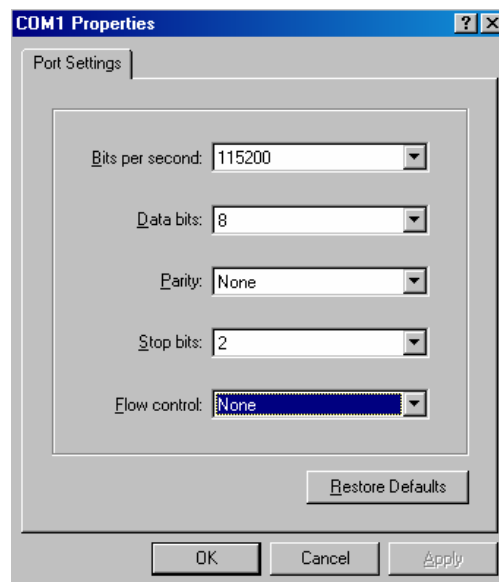

Figure 4-3: COM1 Properties
8. Press the <Enter> key or select OK. This opens the "COM Properties" window as shown in Figure 4-3.
9. Enter the information as listed in Figure 4-3.